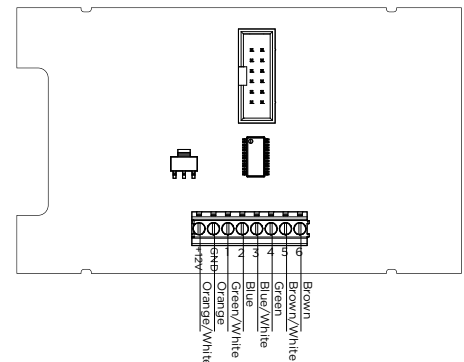

Figure 8: CAT5 Cable on 263EXT Remote Module
2. Connect the other end of the CAT5 cable to the terminal on the remote module. See Figure 8.